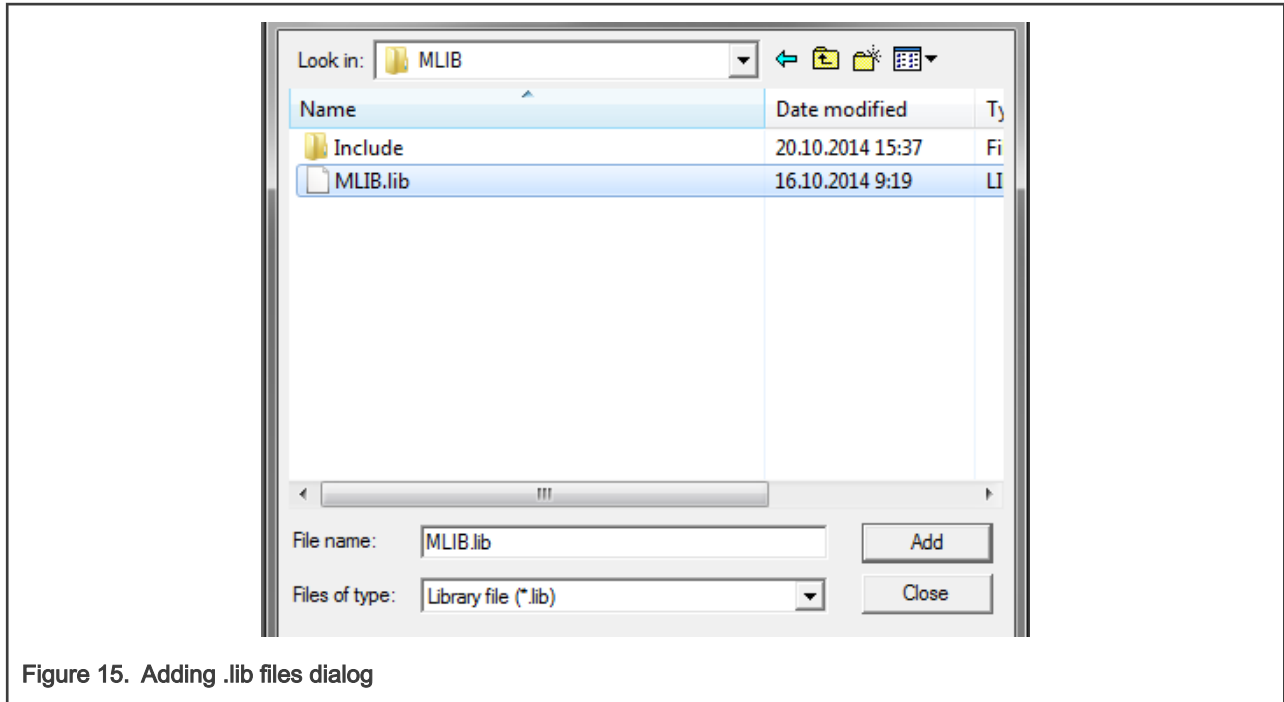

Figure 15. Adding .lib files dialog
5. Navigate to the parent folder C:\NXP\RTCESL\CM33F_RTCESL_4.7_KEIL\MLIB, and select the *mllib.lib* file. If the file does not appear, set the Files of type filter to Library file. Click Add. See Figure 15.